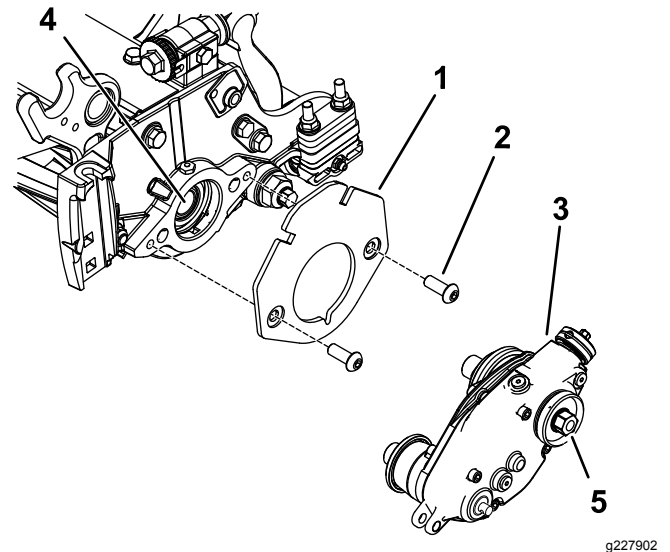

Figure 8
3. Secure the weight bracket to the reel using 2 hex-socket, button-head bolts (3/8 x 3/4 inch) as shown in Figure 8.
4. Apply medium-strength thread-locking compound (such as Blue Loctite® 243) to the threads of the internal reel shaft (Figure 8).
5. Attach the groomer drive box to the reel shaft (Figure 8) using the hex-head on the groomer drive box.